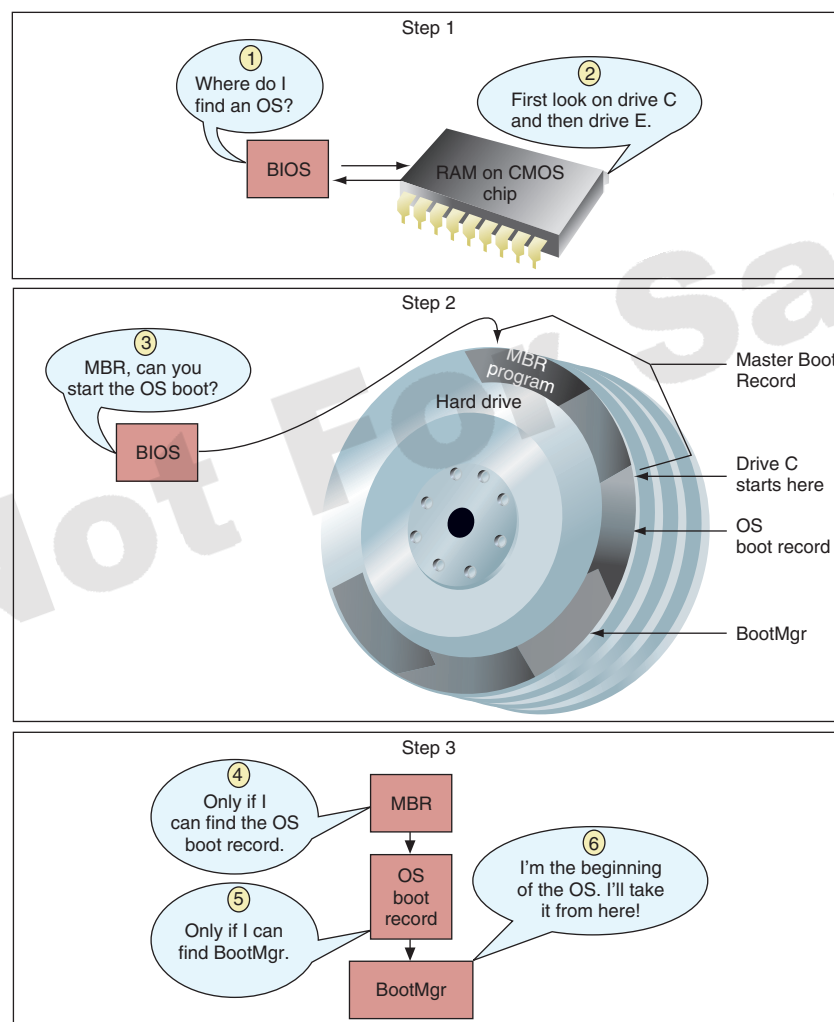

Figure 3-36 Numbered steps show how BIOS searches for and begins to load an operating system (in this example, Windows Vista is the OS)
- At the beginning of the boot drive (usually drive C) is the OS **boot record**. This 512-byte sector is physically the second sector on the hard drive right behind the MBR. This OS boot record contains a small program that points to a larger OS program file that is responsible for starting the OS load. (A **program file** contains a list of instructions stored in a file.) For Windows Vista, the OS boot record program points to **BootMgr**. For Windows XP, that program is **Ntldr**. Figure 3-36 shows the steps the BIOS follows to find this first OS program.